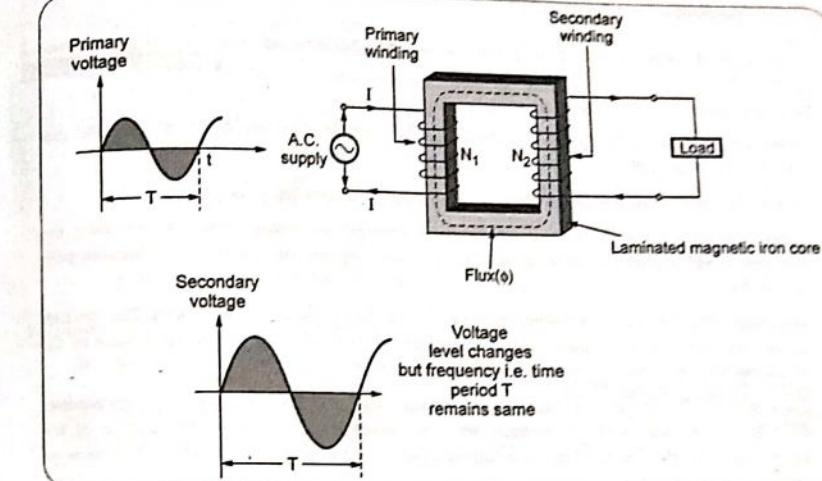

Fig. 5.2.1 Basic transformer
- In its elementary form, it consists of two inductive coils which are electrically separated but linked through a common magnetic circuit. The two coils have high mutual inductance. The basic transformer is shown in the Fig. 5.2.1.
- One of the two coils is connected to a source of alternating voltage. This coil in which electrical energy is fed with the help of source is called primary winding (P).
- The other winding is connected to load. The electrical energy transformed to this winding is connected to the load. This winding is called secondary winding (S).
- When primary winding is excited by an alternating voltage, it circulates an alternating current. This current produces an alternating flux ( $\phi$ ) which completes its path through common magnetic core as shown dotted in the Fig. 5.2.1. Thus an alternating flux links with the secondary winding.